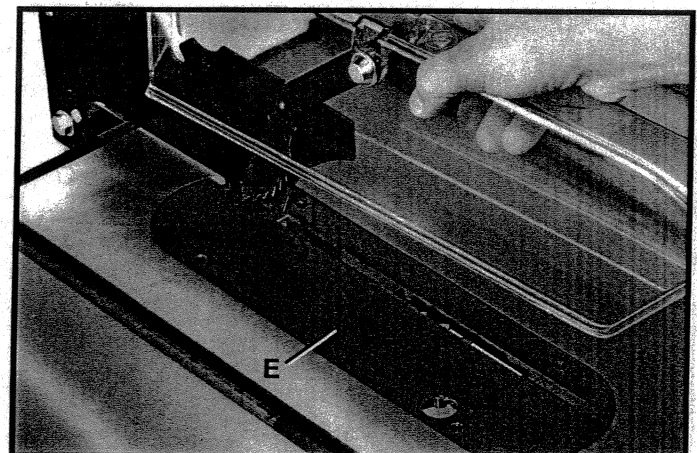

Fig. 48
13. Holding the clear blade guard, lower the saw blade and assemble the table insert (E) Fig. 48, into the opening on the saw table.